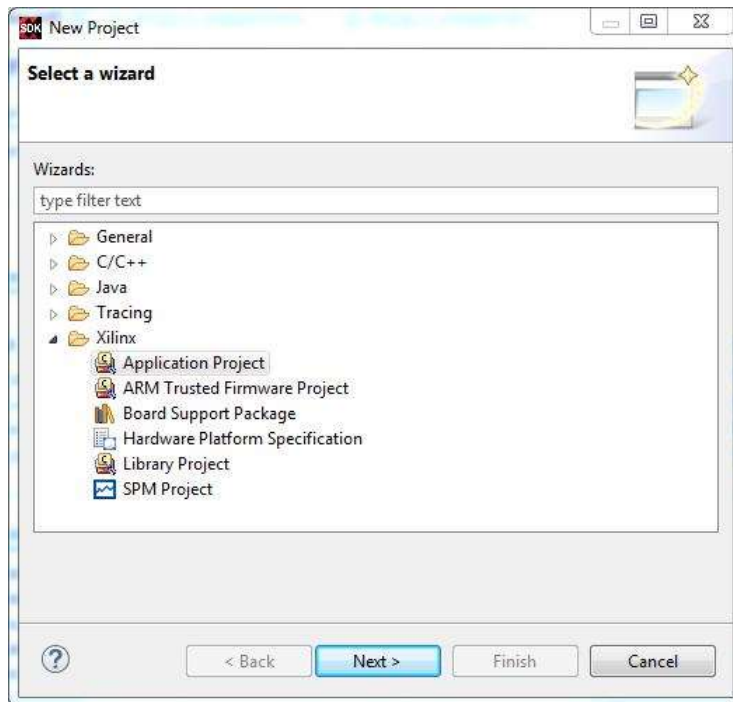

Figure 36: SDK New Project Wizard
2. In the New Project dialog box, select **Xilinx Application Project** (Figure 36).